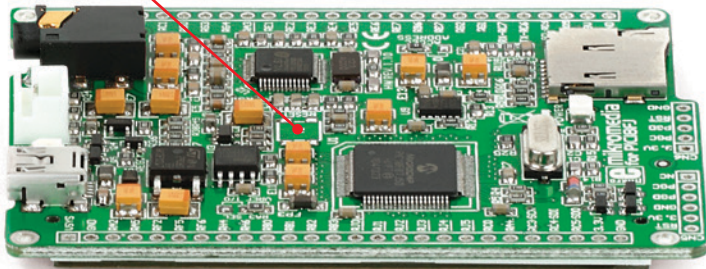

Figure 4-1: Location of additional reset button
*You can also solder additional reset button on the appropriate place at the back side of the board, Figure 4-1.*